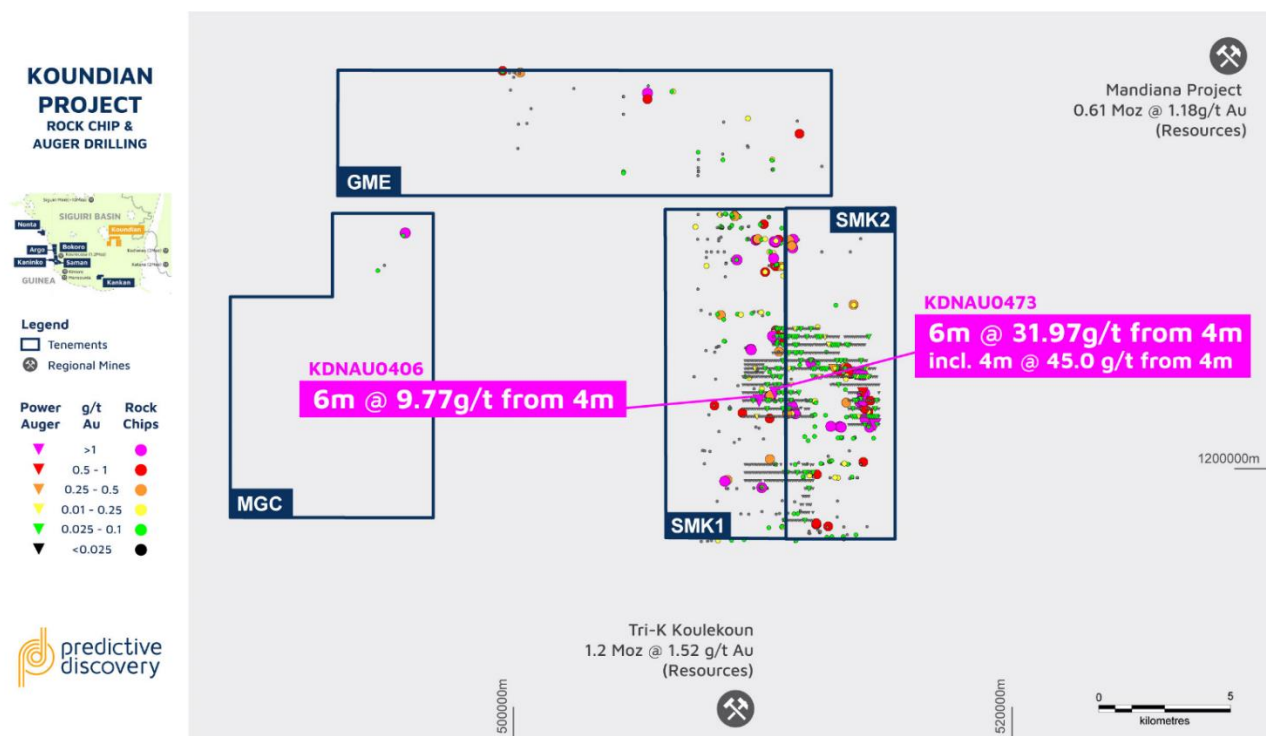

Figure 1 – Koundian Project, location of holes KDNAU0406 and KDNAU0473 with auger drill grid, rock chip sampling results and regional deposits.
- Power auger drilling from the Koundian Project has returned shallow high-grade gold (Fig.1) along a corridor of interpreted NE orientated structures:
Koundian is strategically located along strike from the Managem Group's 2Moz Tri-K gold deposits, with the project's southern permit boundary just 7 km north of the northernmost 1.2Moz Koulekoun deposit (Fig. 1). It also lies 15km west of the Mandiana gold deposits and 75 km south-east of AngloGold's (NYSE: AU) 10Moz Siguiri gold deposit (Fig. 2).